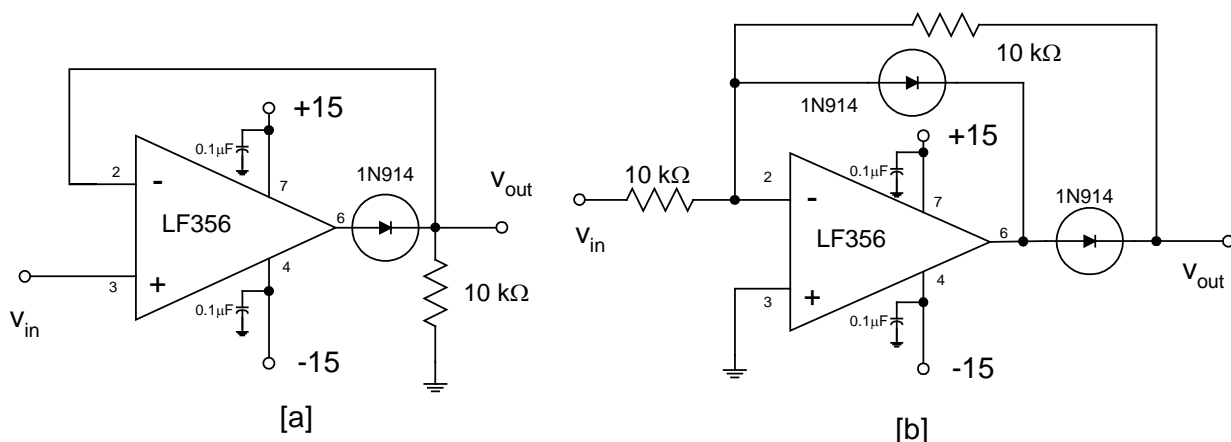

Figure 5: Circuits for experiment 5.
1. Construct the circuit of Figure 5[a]. With the function generator set to produce a 5 V p-p sinusoid at 60 Hz, observe and sketch the output waveform. Notice that it is a half-wave rectified version of the input voltage but that you do not see the 0.6 V drop that you would expect to see if you had made a simple diode rectifier. This circuit is known as a precision rectifier. [The diode is enclosed in the feedback loop, and thus feedback corrects for the diode forward voltage drop “error”.]